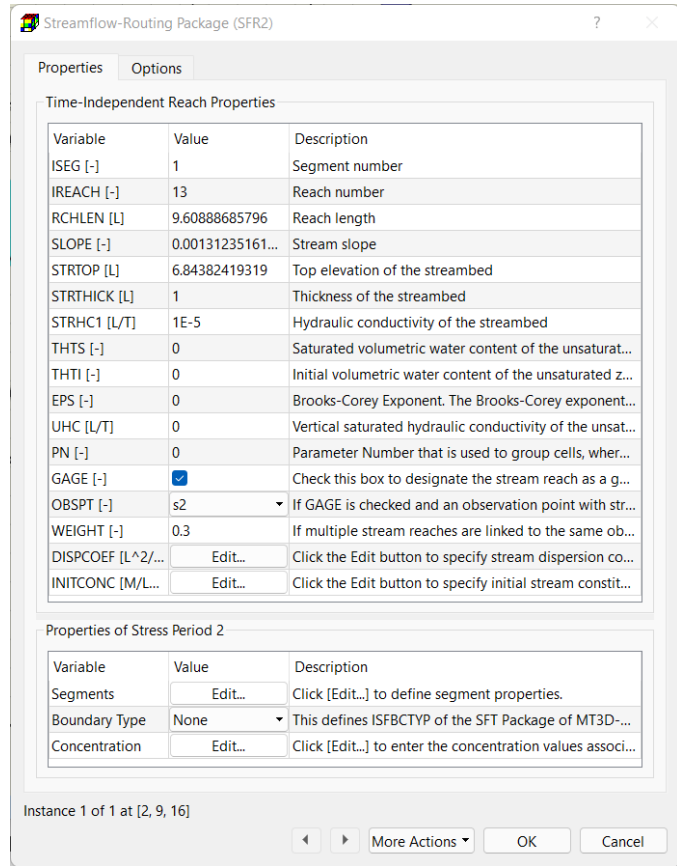

Figure 84. The Streamflow-Routing Package (SFR2) dialog box for specifying cell properties
- 2. Cell-by-cell input method:** Figure 84 shows the Properties tab of the Streamflow-Routing Package (SFR2) dialog box. The required data are organized in two groups as described below.